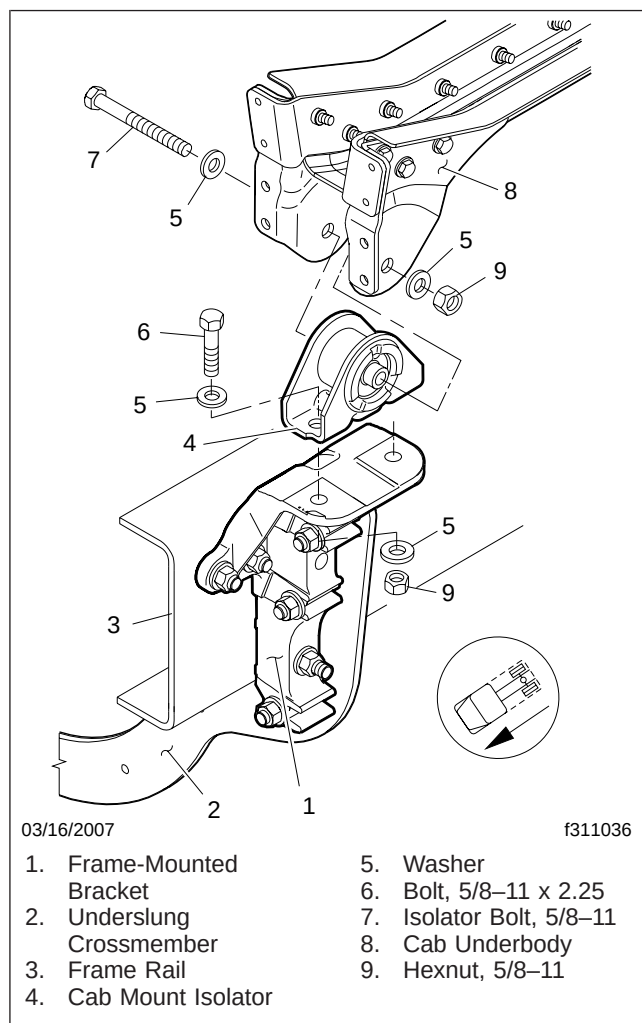

Fig. 3, Forward Cab Mount Installation
4. Remove the isolator bolt, nut, and washers; see Fig. 3.